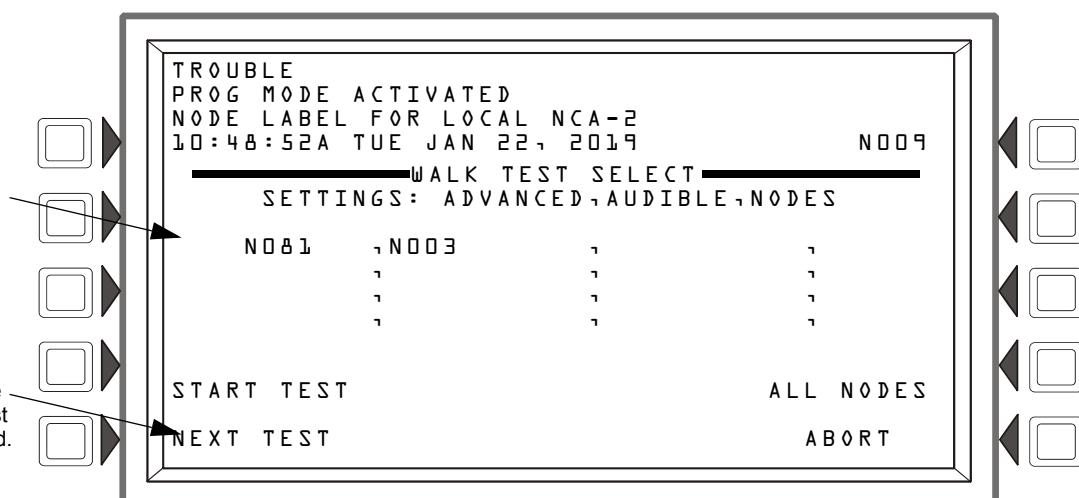

Figure 5.13 Walk Test Select Screen
- **PARAMETER** - Toggles between NODES, LOOPS, DEVICES, and ZONES (LOOPS and ZONES are for use with NFS2-3030 only). Selecting NODES in this field allows multiple nodes to be tested (see Figure 5.13 on page 61). If NODE is selected, you will have an ALL NODES option, allowing you to put the entire network into Walk Test mode. NOTE: This is limited to the nodes mapped to the NCA-2.